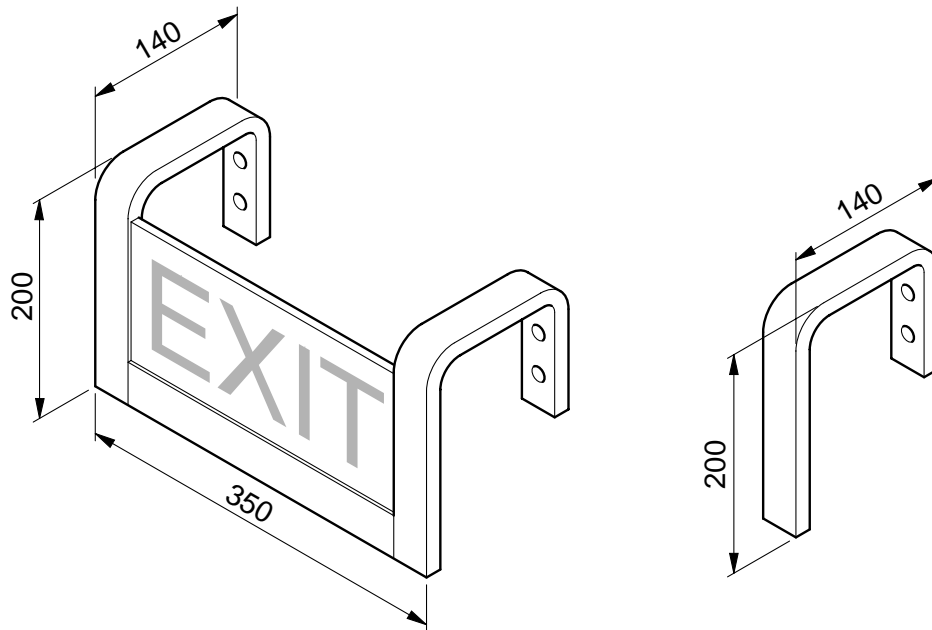

Fig. 8
- 7 Fig. 8 shows a wall-mounted exit sign to be used in an airport departure lounge. The frame is made from wood and the sign from plastic.